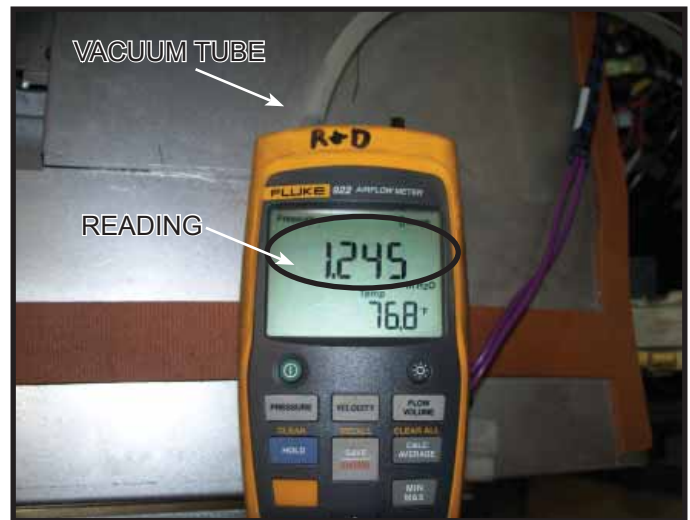

Figure 3.12. Manometer Reading.
- Connect tube to manometer. See Figure 3.12.
- Check the manometer reading. It should be a minimum of 0.75 inches w.c. See Figure 3.12.